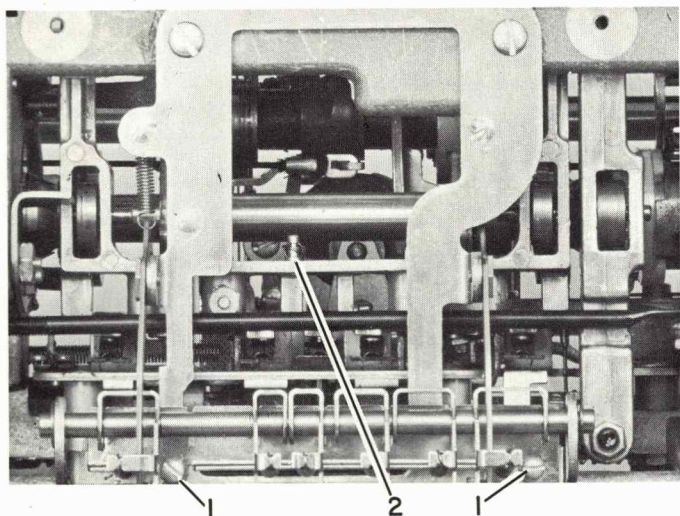

FIGURE 32. Selector Bail Removal
2. Scribe the power frame, remove the four mounting screws (#1, Figure 32) and carefully remove the pusher-arm assembly.
3. Remove the positive bail spring (#2, Figure 32) and pull the bail down.